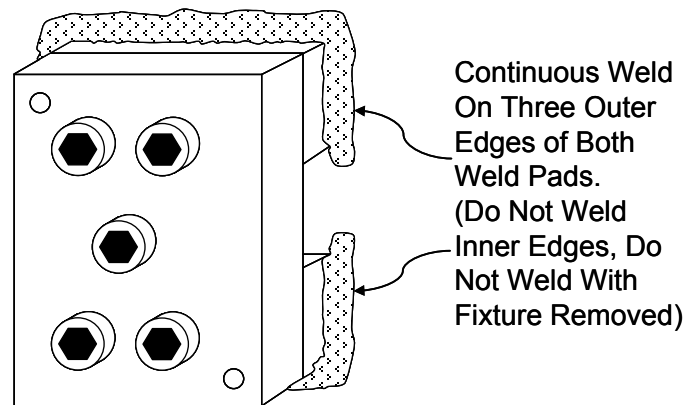

Figure 71: Weld Pad Welding Technique
- 5) Hold the alignment/clamping fixture firmly on the mounting area in the direction of tension or compression of the structural member or, alternatively, drill a 5/8" deep hole through the center hole of the alignment/clamping fixture, tap for 1/4 x 28 threads, and bolt the alignment/clamping fixture to the mounting area through the center hole. Tack weld both sides of each intermediate pad to the mounting surface first, then continuously weld the outer ends and sides of the intermediate pads to the mounting surface, as shown in Figure 71.